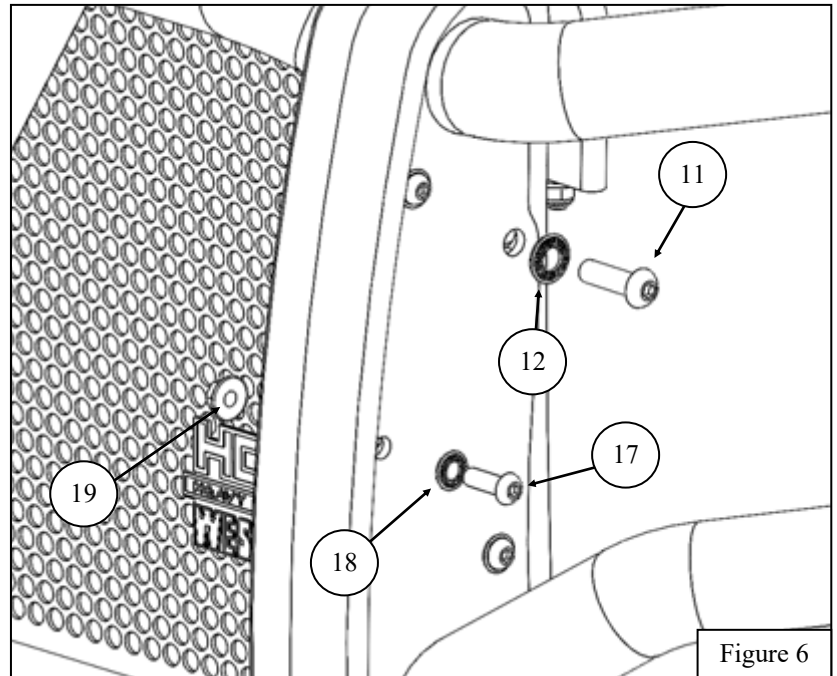

Figure 6
8. With assistance, install the HDX Grille Guard Base to the brackets using the supplied M12 hardware on the lower brackets and M10 hardware on the upper support brackets. See **Figures 6 & 7** for reference. **Note:** For the mounting hole shared with the Upper Support Brackets, M10 hardware will be used.
9. Locate and mount the HDX Driver Wing (Item 2) to the Grille Guard Base using the supplied M8 hardware (Items 17-19). See **Figure 6** for reference.